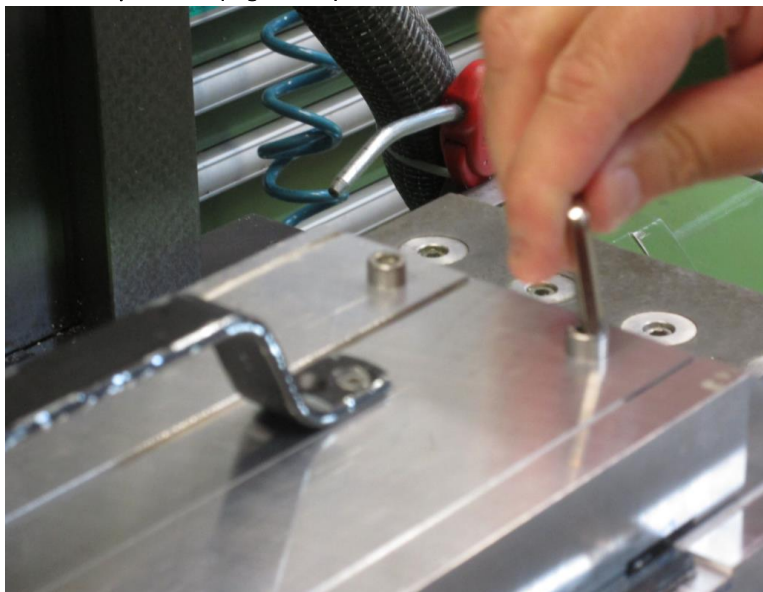

Figure 27 Upper plate screwed to the lower plate
4.1.2.2 Place cover plate over mat. Screw it to the lower plate to insure enough pressure on the mat and lock the position (Figure 27).